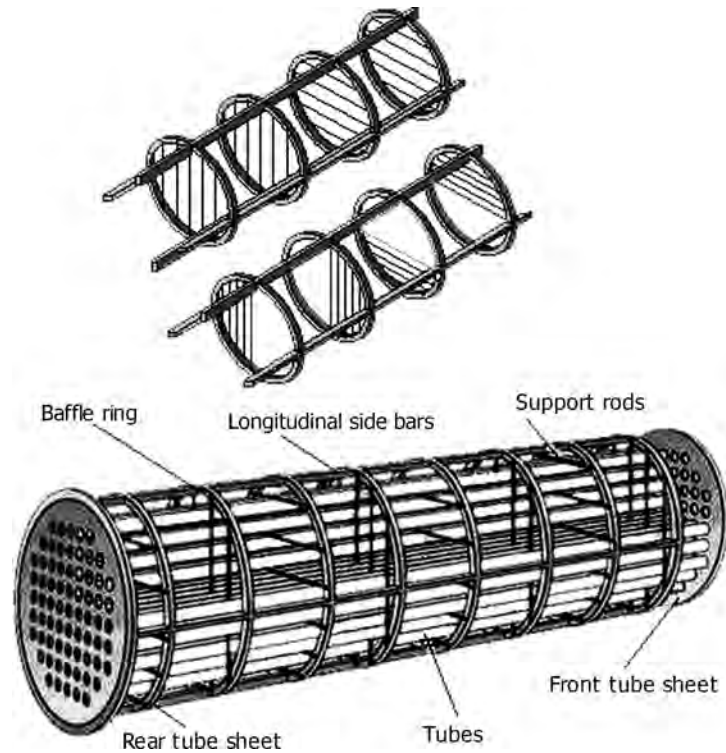

FIGURE 10.23 Rod baffles.
- *Rod Baffles:* Metal rods rather than sheet metal baffles are used to support tubes and flow in the shell is mainly parallel to tube axis (Figure 10.23).